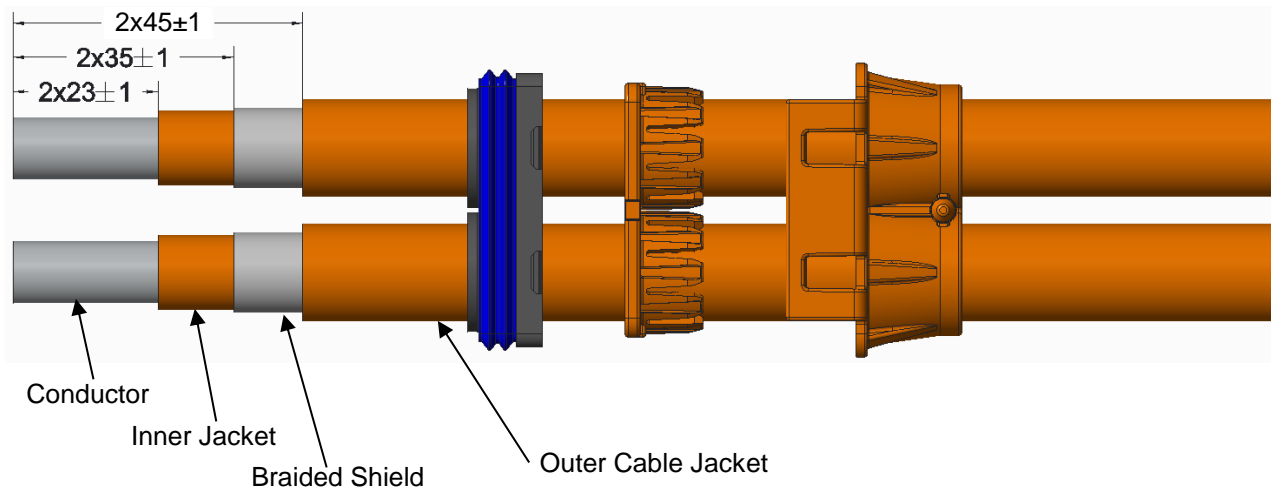

Figure 4: Cable Stripping
- Strip and remove the outer cable jacket, foil (if present), braided shield, and inner jacket from the plug end as shown in Figure 4.